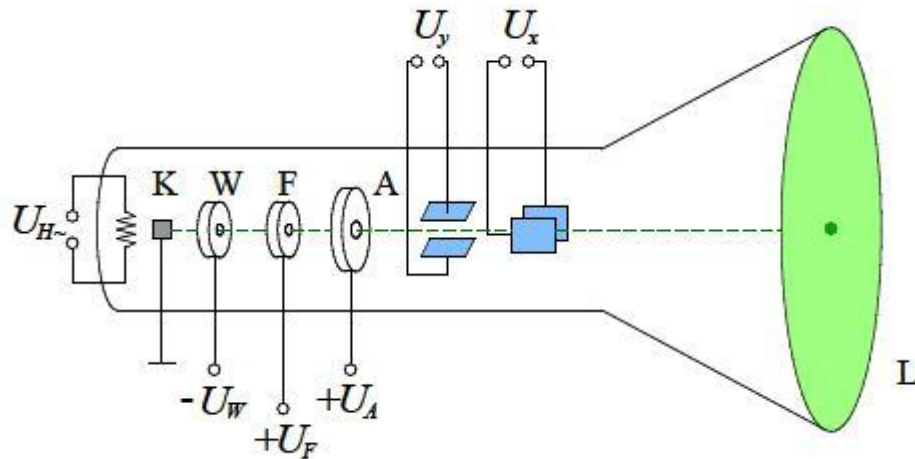

Figure 4.4: Set-up of a Cathode Ray Oscilloscope Tube
The set-up of an oscilloscope tube is shown in Figure 4.4, the real shapes of the single component are considerably more complex (Figure 4.5). The grounded cathode K (0 V) is heated indirectly by a heating spiral (at a heating voltage of U_H) until thermal electron emission occurs. The anode (A), drilled in its centre, is placed at a distance d_A from the cathode. Between A and K a positive high voltage U_A of up to a few 1000 Volts is applied to give rise to an electrical field E_A between K and A with the magnitude of: $E_A = \frac{U_A}{d_A}$ and exerting a force F_A on the electrons (having charge e) of magnitude: $F_A = e E_A$.